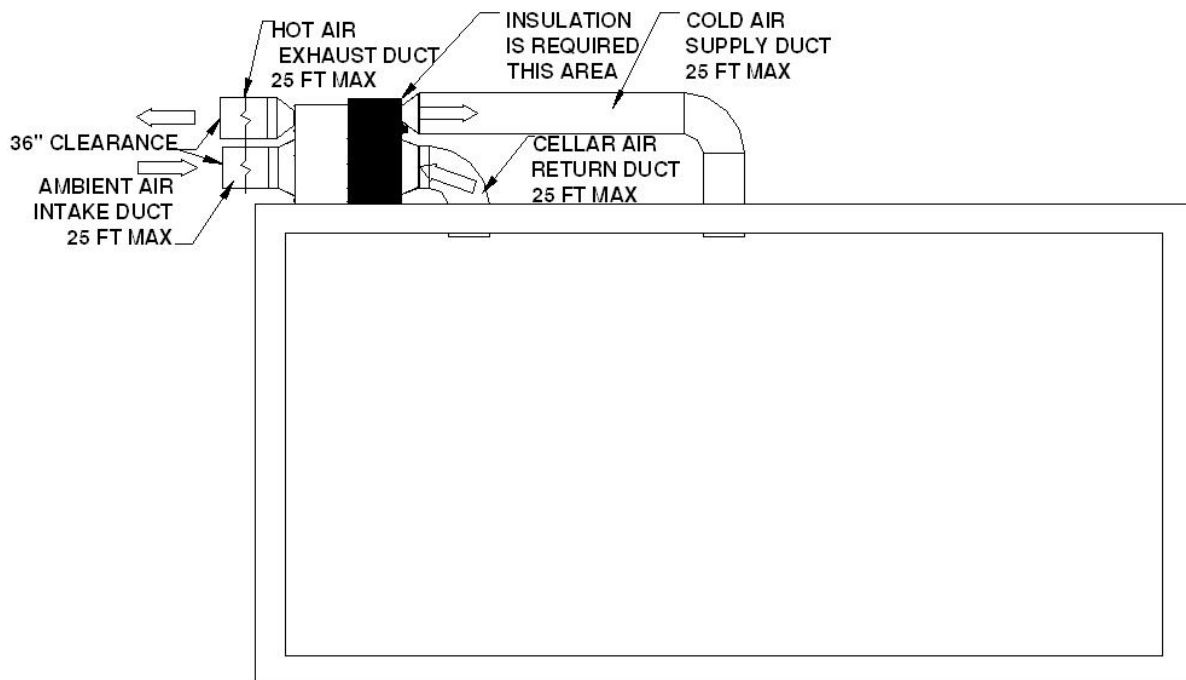

Fig. 11 Cold-air supply, cellar-air return, hot-air exhaust and ambient-air intake ducts
6. Remote installation with cold-air supply, cellar-air return, hot-air exhaust and ambient-air intake ducts (Fig. 11 & 12)